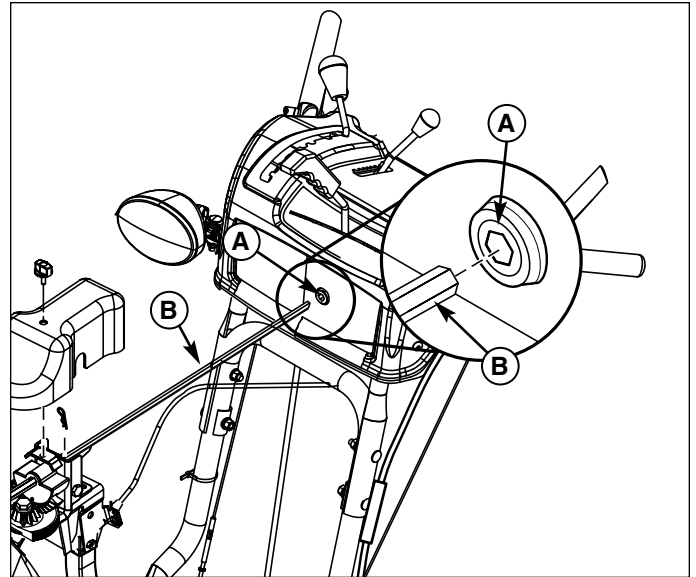
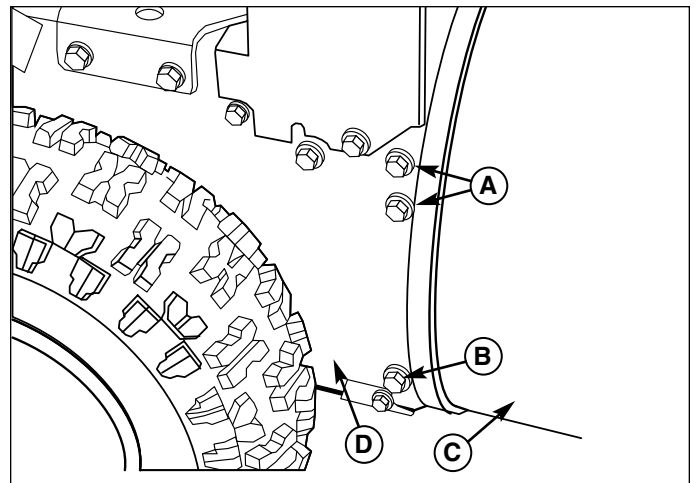

**Figure 29. Pulleys and Belts**
**Figure 30. Spout Rotator Rod**
5. Loosen the belt guide (B, Figure 29). Pull the belt guide away from the auger drive pulley (A).
6. Pull the auger idler pulley (K) away from the auger drive belt (D) and slip the belt off of the idler.
7. Remove the auger drive belt (D) from the engine pulley. To remove the auger drive belt (D), the auger drive pulley (C) may have to be partially rotated.
9. Remove special nut (A, Figure 30) and cover (B).
10. Remove hair pin (C) and slide rod forward about 3 inches. Until hex shaft separates from handle control.
12. Remove the old auger drive belt (D, Figure 29) from the impeller pulley. Replace the auger drive belt with an original factory replacement belt available from an authorized service center.
13. Install the new auger drive belt (D) onto the impeller pulley.
17. Insert hair pin (C, Figure 30) into spout rotator rod (D).
18. Install cover (B) and secure with special nut (A).
19. Install the auger drive belt (D, Figure 29) onto the impeller pulley (H).
20. Slip the auger drive belt (D) under the idler pulley (K).
3. Remove the e-ring (J, Figure 29) from one end of the swing plate axle rod (I).
5. Remove the traction drive spring (E, Figure 29).
6. Remove the old traction drive belt (A) from the traction drive pulley (G) and from the traction drive pulley (F). Replace the traction drive belt (A) with an original factory replacement belt available from an authorized dealer.
7. Install the new traction drive belt (A) onto the traction drive pulley (G) and onto traction drive pulley (F).
8. Make sure the traction drive idler pulley (L) is properly aligned with the traction drive belt (A).
9. Attach the traction drive spring (E).
10. Install the swing plate axle rod (I) and secure with the e-ring (J) removed earlier.